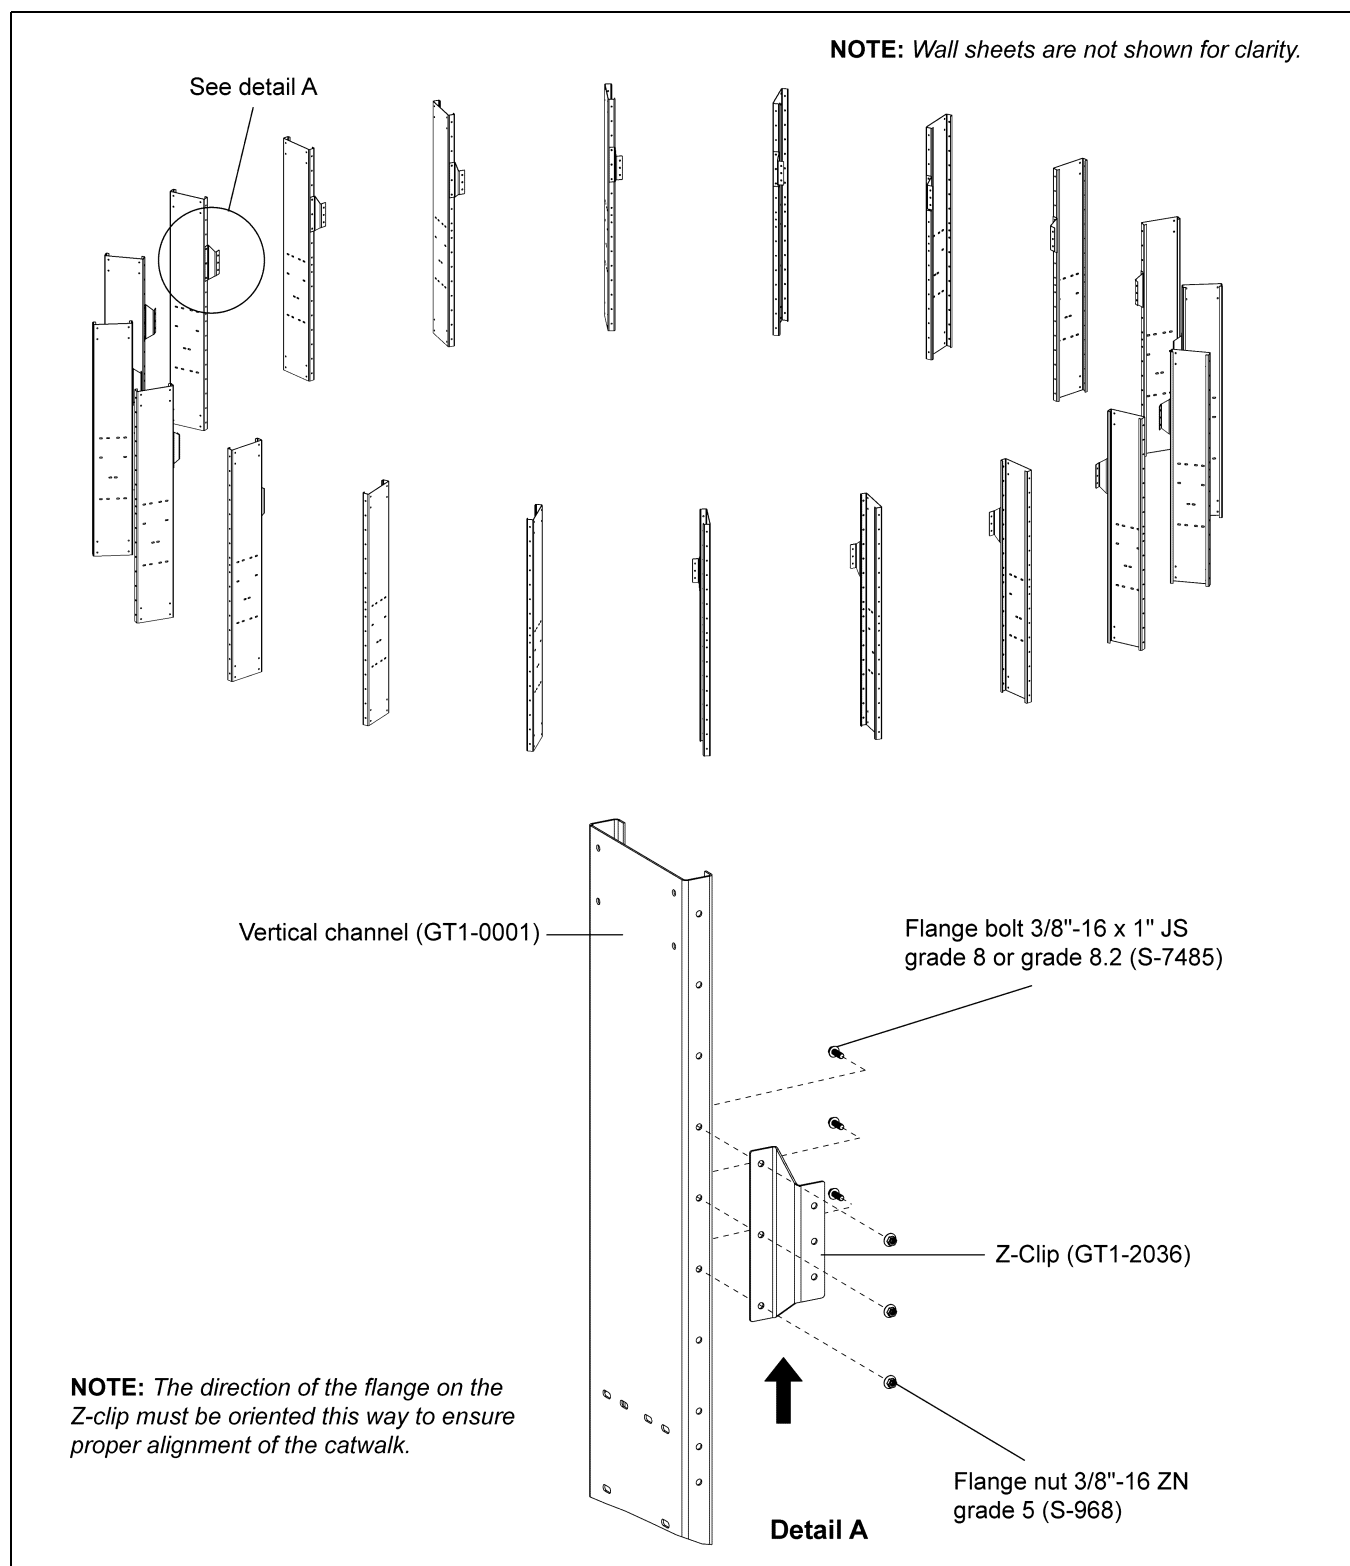

Figure 5A
1. Bolt Z-clip (GT1-2036) to all vertical channels (GT1-0001). The Z-clip can be installed on each vertical channel as the inner wall sheets are installed using 3/8"-16 x 1" JS grade 8 or grade 8.2 bolts (S-7485) and 3/8"-16 ZN grade 5 nut (S-968). (See Figure 5A.)